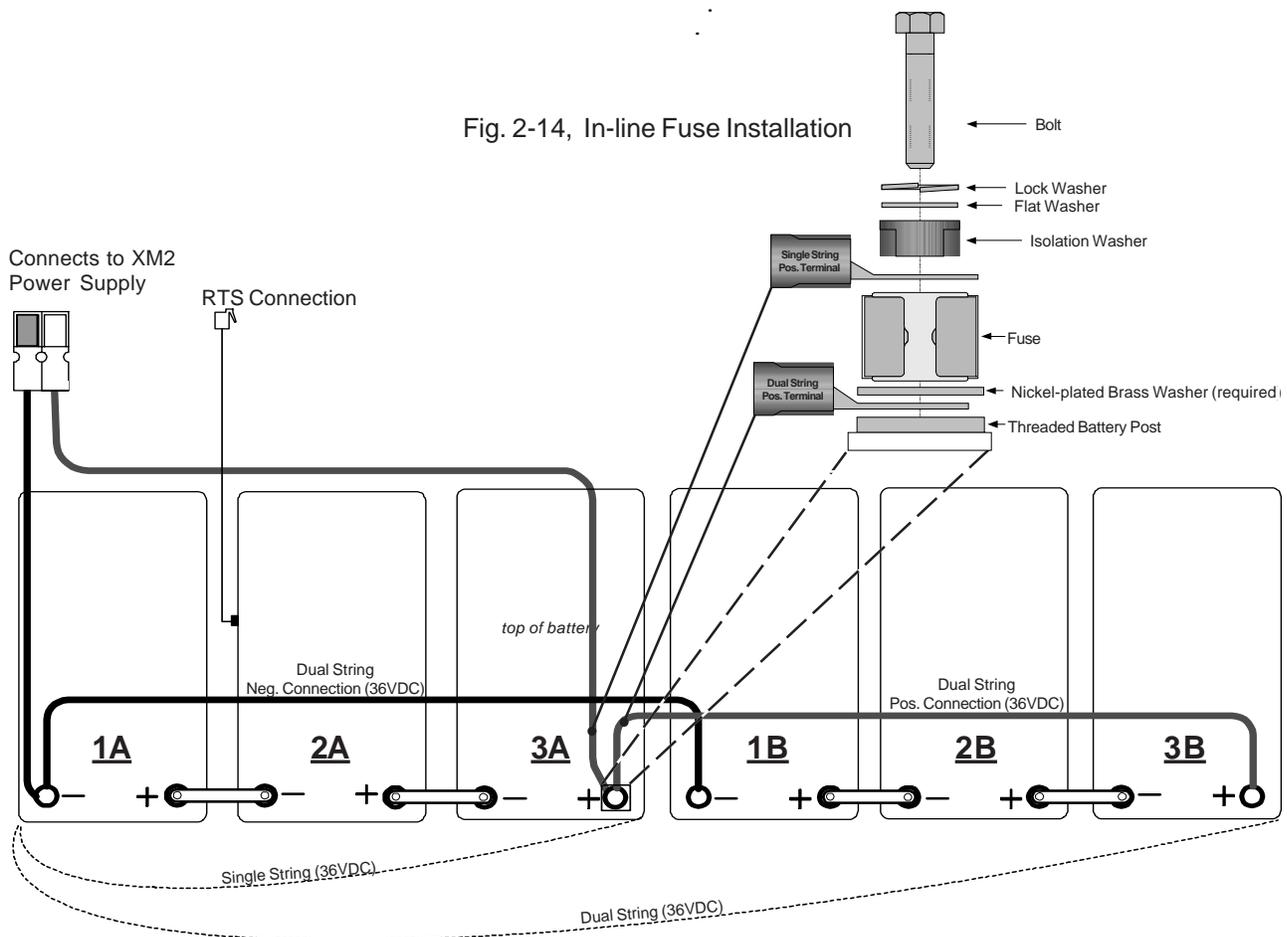

Fig. 2-15, Battery Wiring Diagrams (viewed from the top)
1. Place the batteries, with the terminals oriented toward the front of the enclosure on the battery shelf (see Fig. 2-15). Use the battery manufacturers' recommended spacing between batteries for maximum ventilation space.
3. Connect the batteries in series to achieve 36VDC. You must install the battery-mounted fuse in either single or dual 36VDC series (see Fig. 2-15).